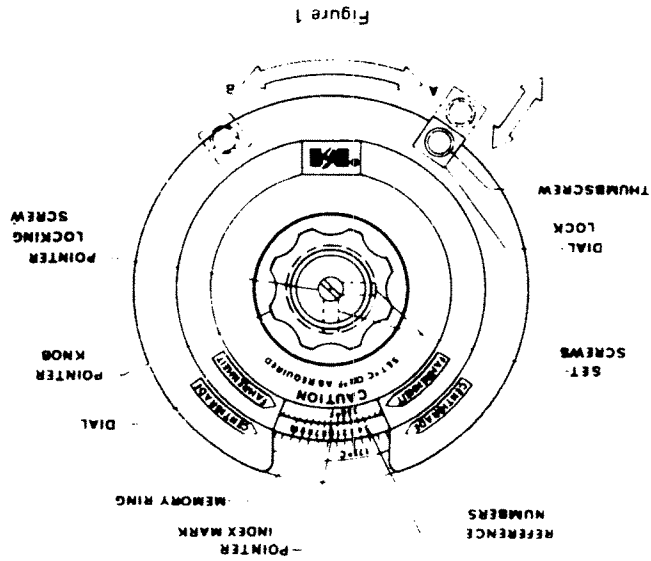
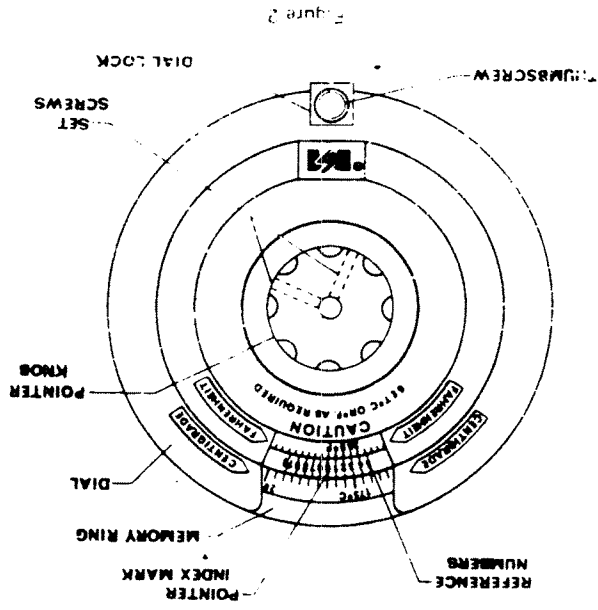

Figure 1
Figure 2
2. Unlock dial (refer to Dial Lock Section), and rotate knob until pointer index mark is aligned with desired temperature, $+175^{\circ}\text{C}$, in this case. Refer to Figures 1 and 2.
DIAL LOCKS: There are two dial locks utilized on Blue M temperature control units. One is fixed below the center of dial, Figure 2, and one has a two-position dial lock as shown in Figure 1. The movable lock allows 370° rotation of dial.
To engage fixed lock as shown in Figure 2, turn thumbscrew clockwise to lock dial; counterclockwise to release it.
4. Loosen the pointer locking screw in center of knob, and loosen two knob set screws (see Figure 1). Loosen dial lock. Dial should now rotate independently of the knob and shaft. Note: it may be necessary to pull knob forward slightly to free dial.
1. With the unit operating, loosen the dial lock (see Figure 1).
1. Loosen the dial lock and turn OTP control knob fully clockwise; operate unit until it stabilizes at desired temperature, +175°C, in this case. (see Figure 1)